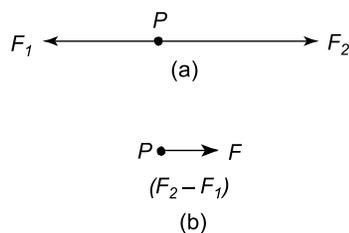

Figure 4.6
- (b) For forces acting in opposite directions along the same line of action, the resultant force is the arithmetic difference between the two forces. Forces of F_1 and F_2 acting at point P as shown in Figure 4.6(a) have exactly the same effect on point P as
force F shown in Figure 4.6(b), where $F = F_2 - F_1$ and acts in the direction of F_2 , since F_2 is greater than F_1 . Thus F is the resultant of F_1 and F_2